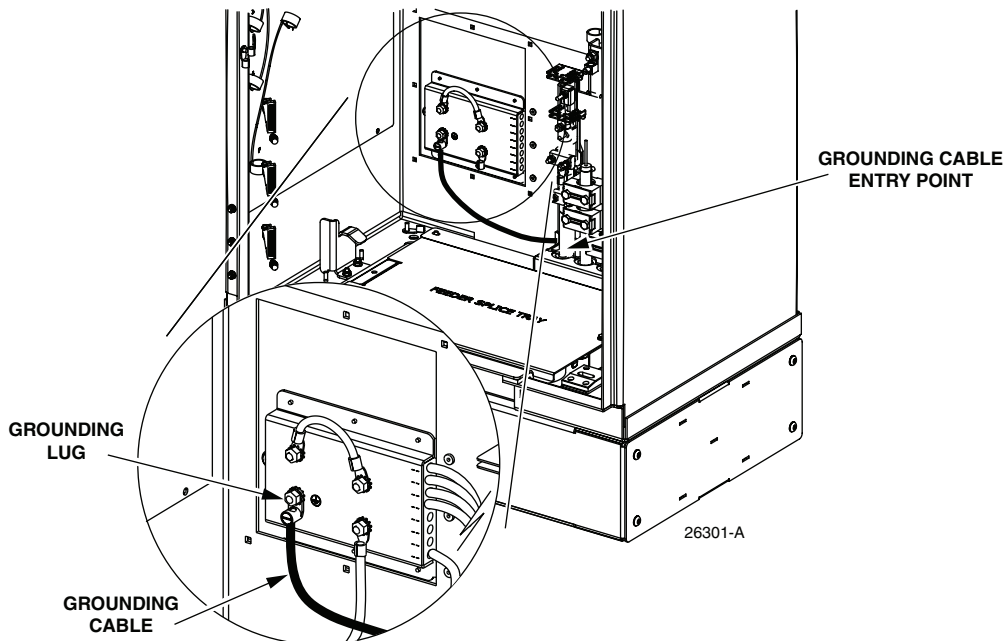

Figure 16. Grounding Wire Connection To Cabinet
- 11.6.2 Working through the access openings in the base of the cabinet, insert the grounding wire through the flexible membrane at the point indicated in Figure 16.